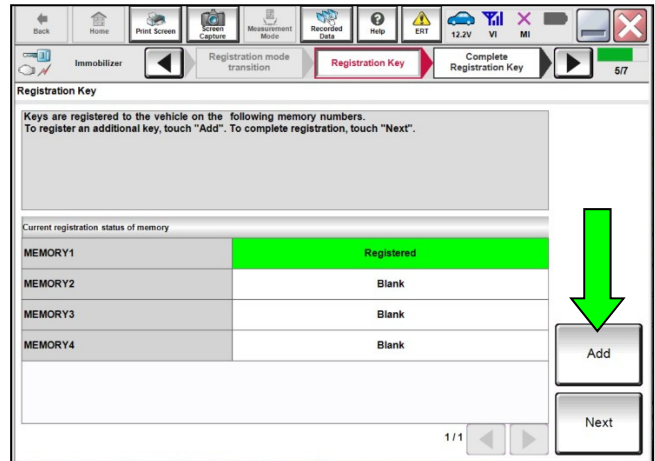

Figure 10
- e. Verify the Red Security light flashes five (5) times and the screen shown in Figure 10 indicates that two (2) keys have been registered.